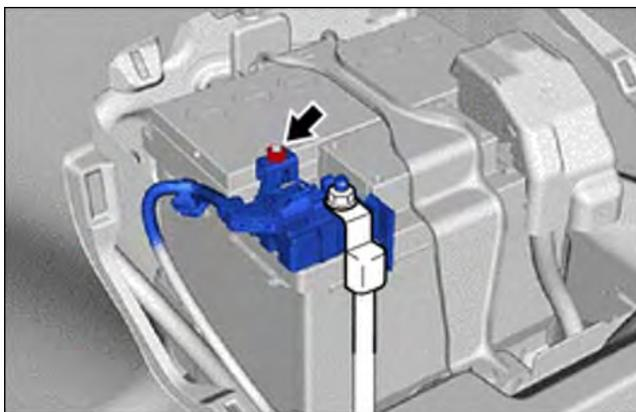

Figure 2e
- (a) Loosen the nut and disconnect the cable from the negative (-) battery terminal, as shown in Figure 2e.